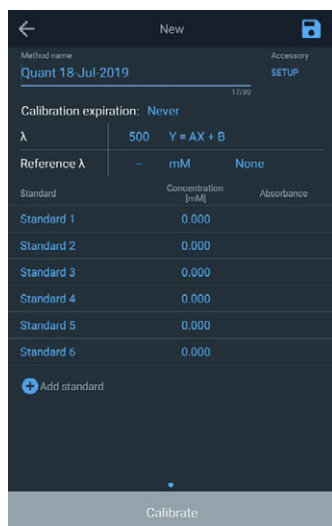

Figure 4.
2. Select the Quant method in the GENESYS Software using similar settings to what is shown in Figure 4. Set the analysis wavelength at the  $\lambda_{\text{max}}$  as determined in Part 2. Enter the concentration values for the iron standard solutions you calculated in the previous step.